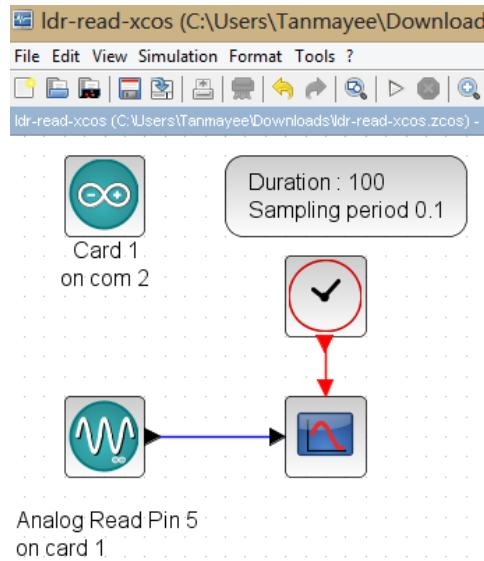

Figure 6.3: Xcos diagram to read LDR values. This is what one sees when `origin/user-code/ldr/scilab/ldr-read.xcos`, see Footnote 2 on page 2, is invoked.
1. The Xcos diagram in Fig. 6.3 performs data acquisition from analog pin 5 and displays the read values on the scope. When the file required for this experiment is invoked, one gets the GUI as in Fig. 6.3. In the caption of this figure, one can see where to locate the file.